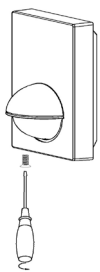

Figure 1
- Loosen the screw on the bottom and open the front cover. (refer to figure 1 and 2).